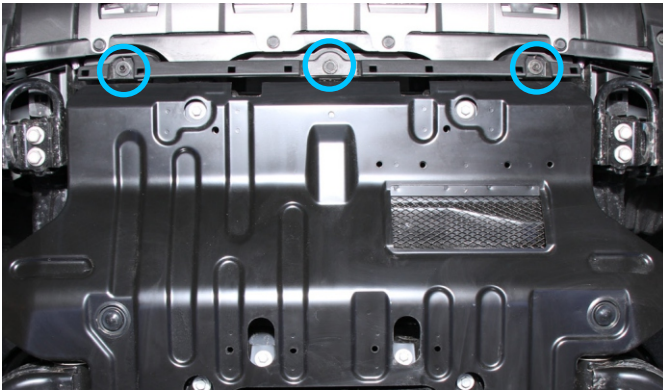

Fig. 1
1. Remove factory plastic cover as shown in Fig.1.